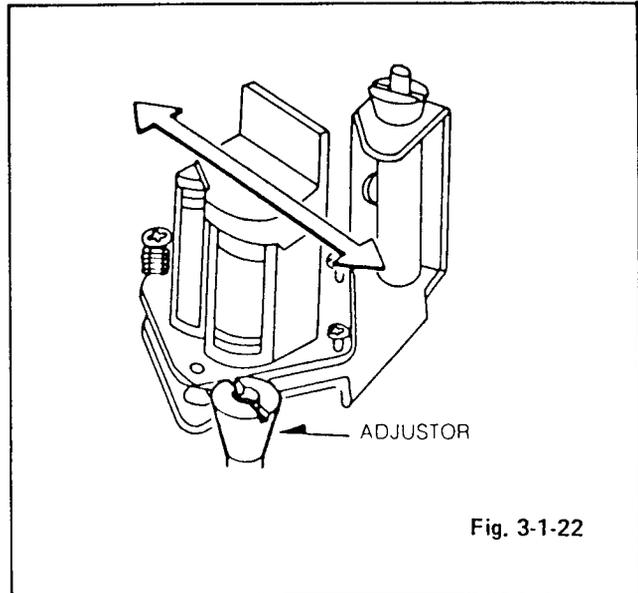

Fig. 3-1-22
- e) Adjust the adjustor in Fig. 3-1-22 with horizontal position adjusting driver. So that the RF envelope output may be at the maximum. At this time rotate the horizontal position adjusting driver counterclockwise or clockwise and adjust the maximum of the RF output to the mid-point between the point with RF output begins to decrease and the point which the opposite output begins to decrease.